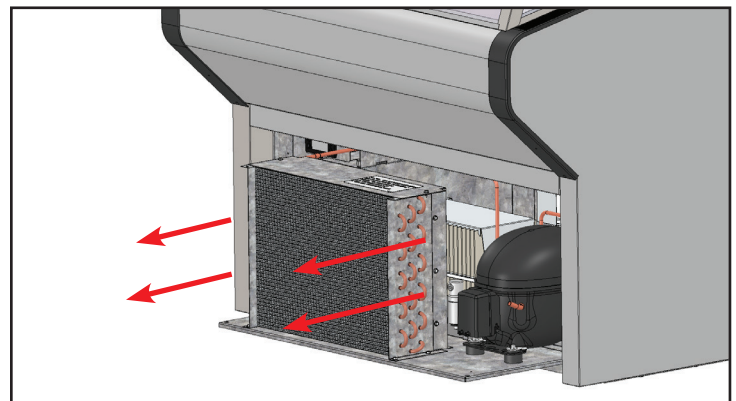

Fig. 6. Carefully slide the condensing unit out.
8. Carefully slide the condensing unit out (tubing connections are flexible). Gently blow compressed air or CO₂ through the coil until it is clean. See fig. 6.